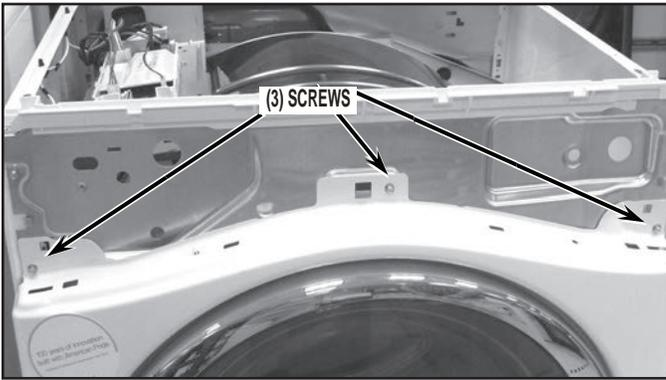

FIGURE 8
11. Next remove the three (3) screws from the top of the front panel as shown in *Figure 8*.